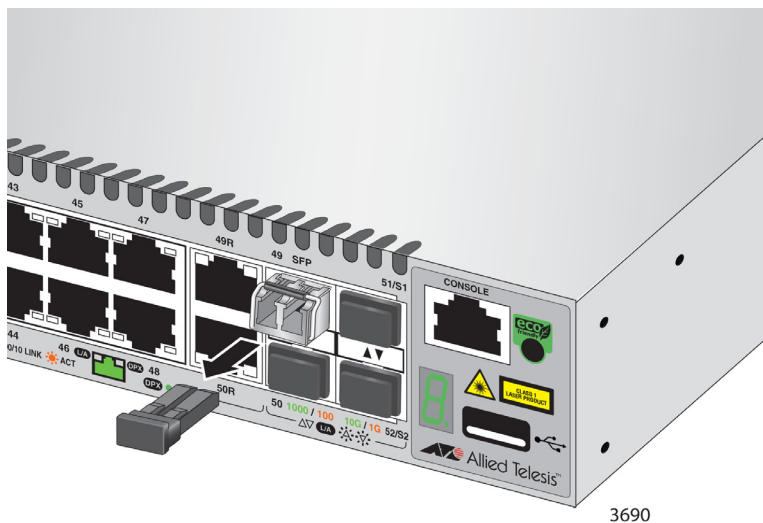

Figure 42. Removing the Dust Cover from an SFP Transceiver
5. Remove the dust cover from the transceiver, as shown in Figure 42.